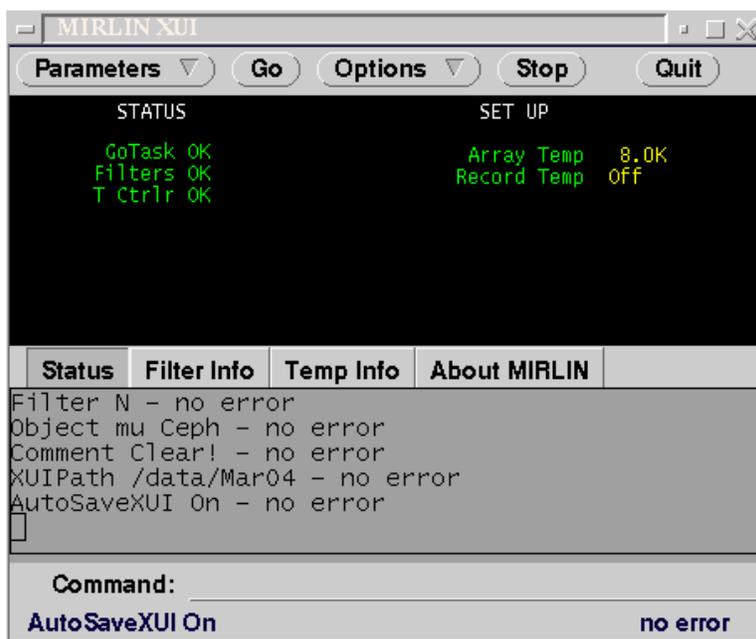

Figure 2: The XUI Main Window
Now select the upper left xterm (yellow) and simply type “go”. This will start the X user interface (XUI, Figure 2) and the “View FITS” program (VF). You should now be ready to begin taking and displaying data. If a number of socket error messages or math error messages appear in the xterm, you didn’t wait long enough for the IC to initialize. Kill XUI and VF and type “go” again.